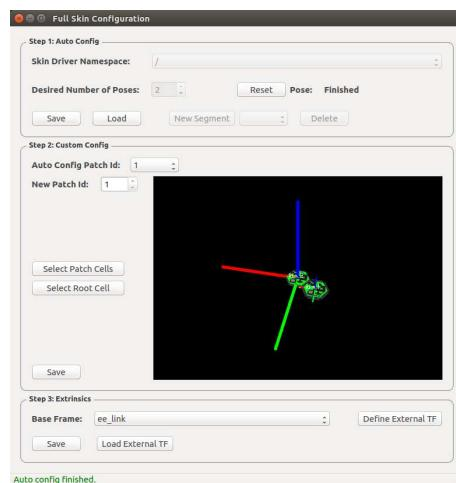
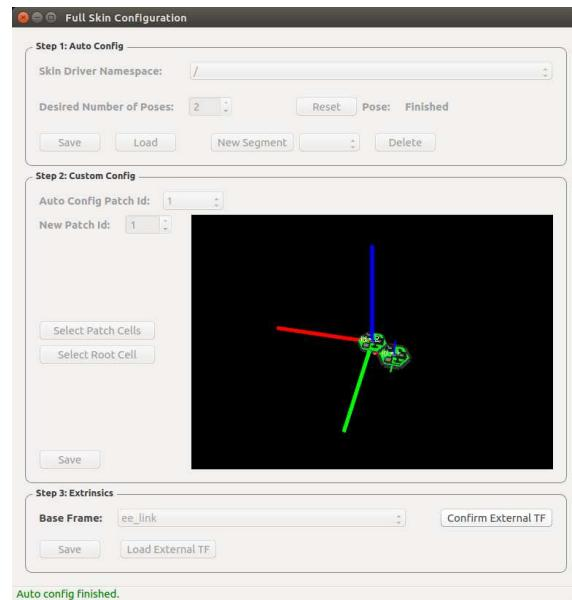

Figure 7.5: Step 3.1
Figure 7.6: Step 3.1
1. Select the base frame of the patch, i.e. the robot link where the patch is attached to (e.g. ee_link), see Fig. 7.5, and press the button “Define External TF”, see Fig. 7.6.